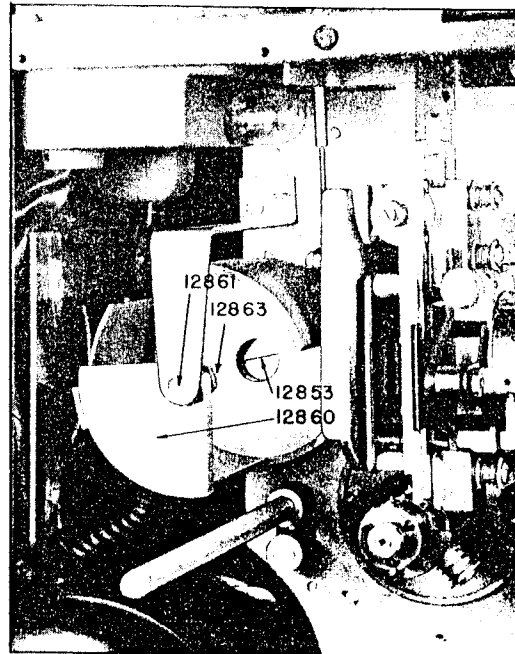

Figure 19.
2. Timing the Shutter (Refer to Figure 19)
3. Adjusting the Fire Shutter (Refer to Figure 19)